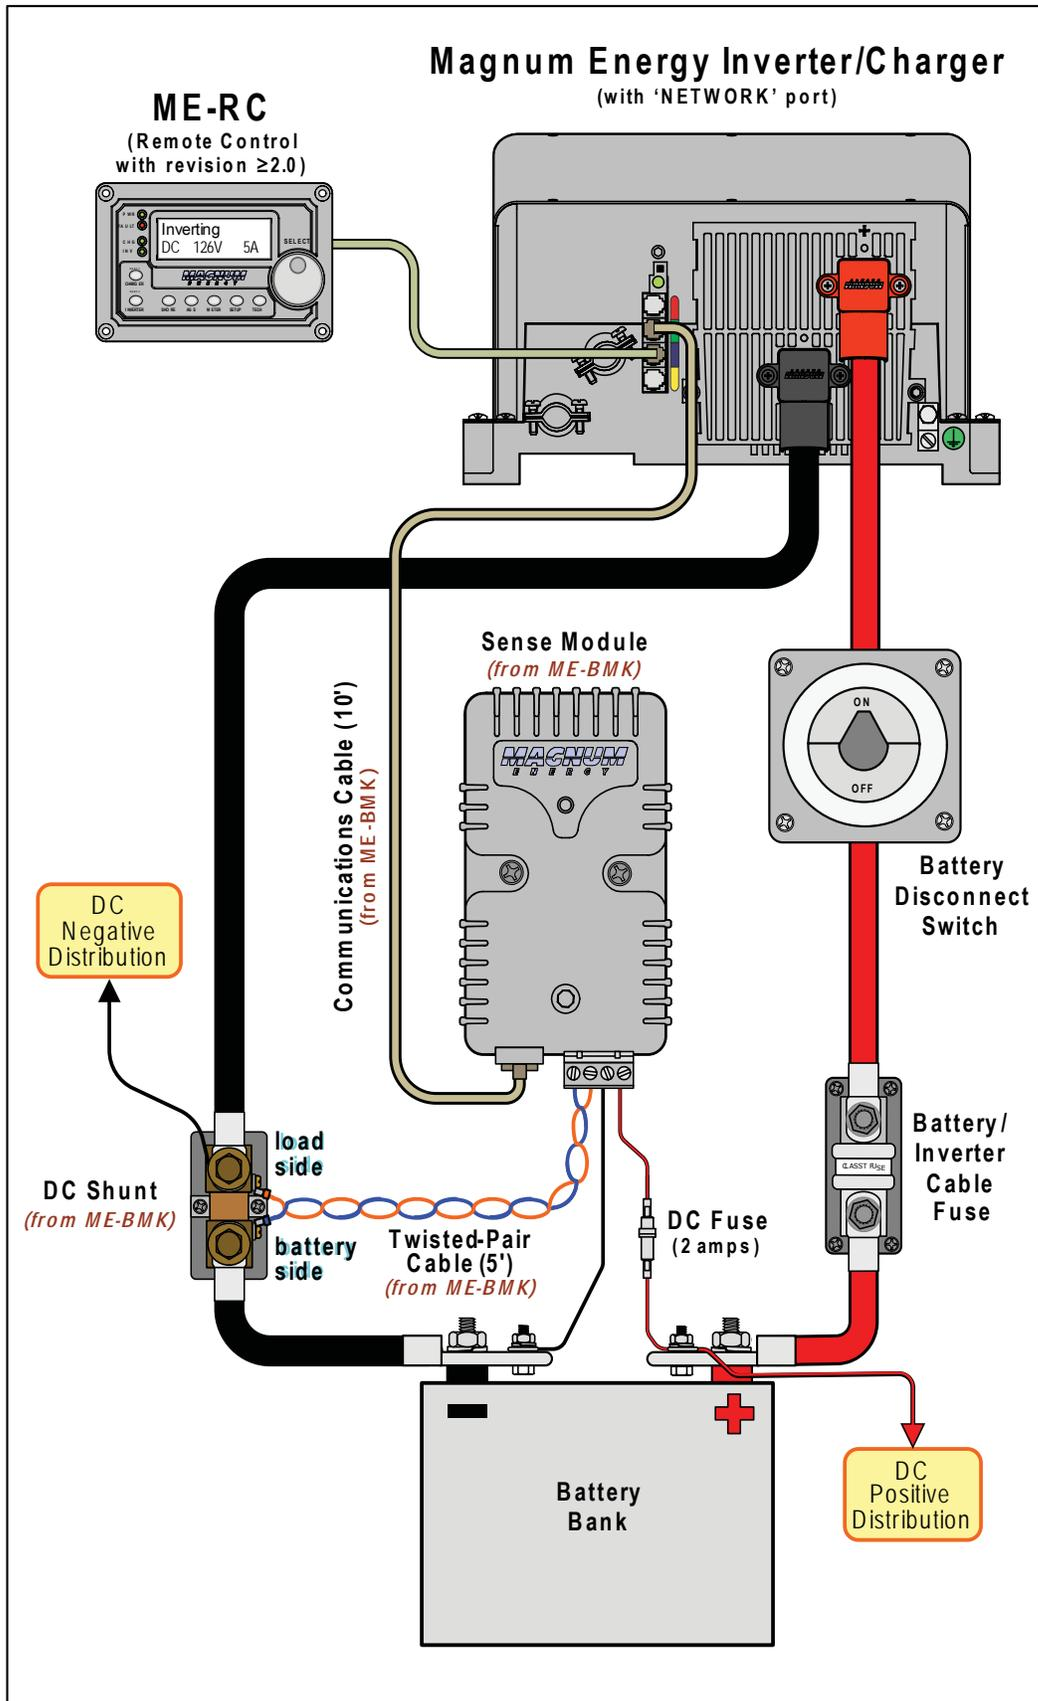

Figure 2-1, ME-BMK Installation Diagram
To assist you in planning and designing your installation; you should review the basic system diagram shown in Figure 2-1. If another network device besides the ME-BMK is to be installed, refer to section 2.3 to determine your specific network configuration.
2.1.1 List of supplied components in the ME-BMK (see figure 2-1):
2. Connect the Communications cable into the RJ11 "Magnum Net" port beside the green label (also referred to as the "Network" port) on the Magnum inverter/charger (see figure 2-1).